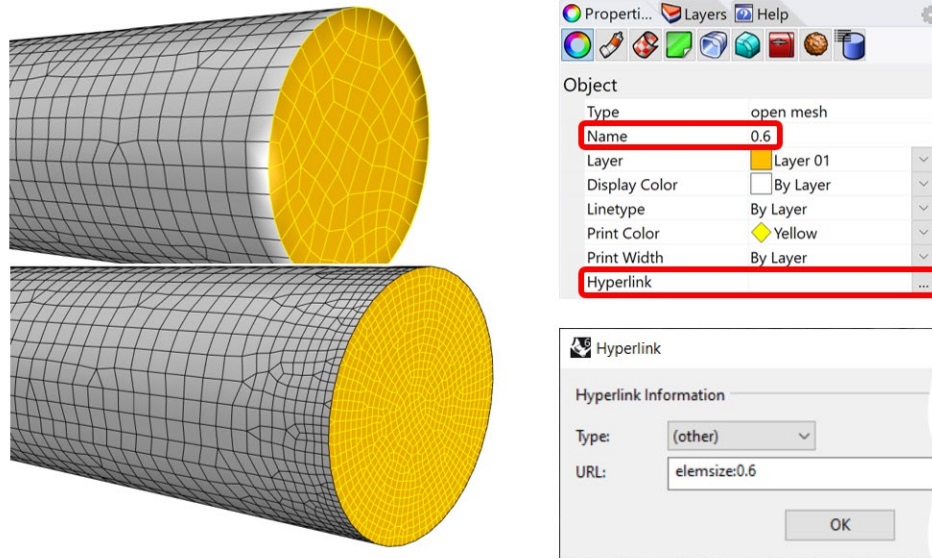

Figure 20: Two ways to specify local element size for surface meshes.
1. By specifying element size via a hyperlink available through object properties (Figure 20):
Figure 20 shows two ways to specify local element size (*Name* field or *Hyperlink*). In this example only the yellow part of the mesh is assigned local element size, after which all meshes are remeshed with **GSurf**. The result of remeshing (bottom image) shows a much finer mesh at and around the yellow part, which corresponds to the provided element size.